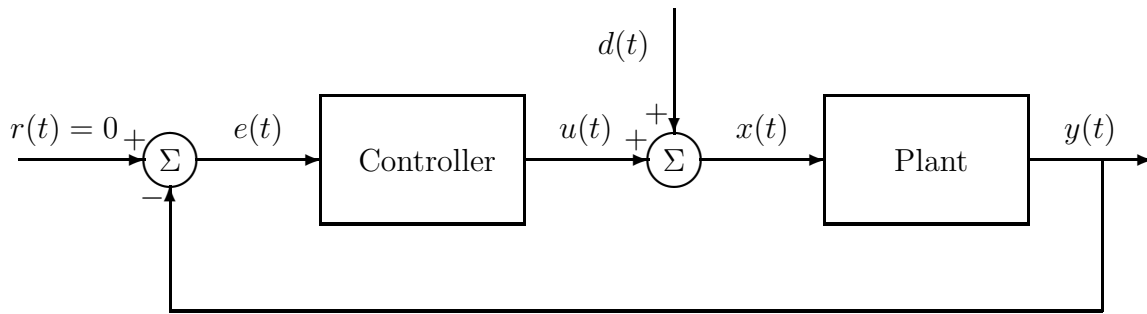

Figure 1: Block diagram
The setting for the experiment is shown in Figure 1. The **plant** is an aeroplane, simulated by the computer. It to be controlled about its pitch axis and the measured output $y(t)$ is the pitch angle.
The objectives of the controller in Figure 1 are:
4. Now type “flysim” at the prompt. This opens Figure 1 which is a simple head-up display showing the horizon (broad red line) and joystick forward-back position (yellow diamond).